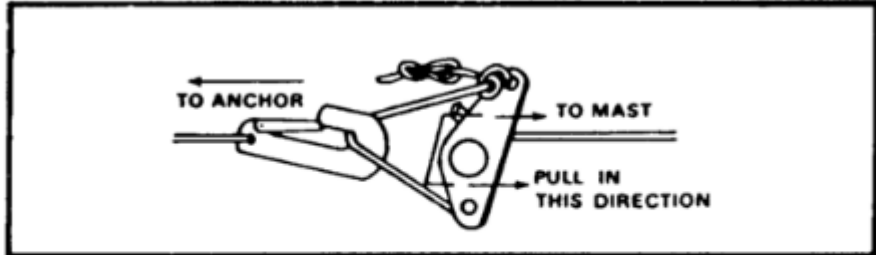
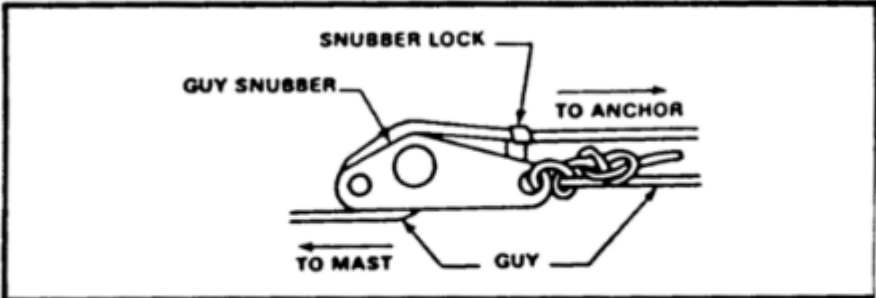

Figure 3-7. Pulling guy rope taut.
Figure 3-8. Securing guy with snubber lock.
f. Pull the upper and lower guys on each side tight (Figure 3-7) and secure them (Figure 3-8). Make sure the mast assembly is not pulled out of line.